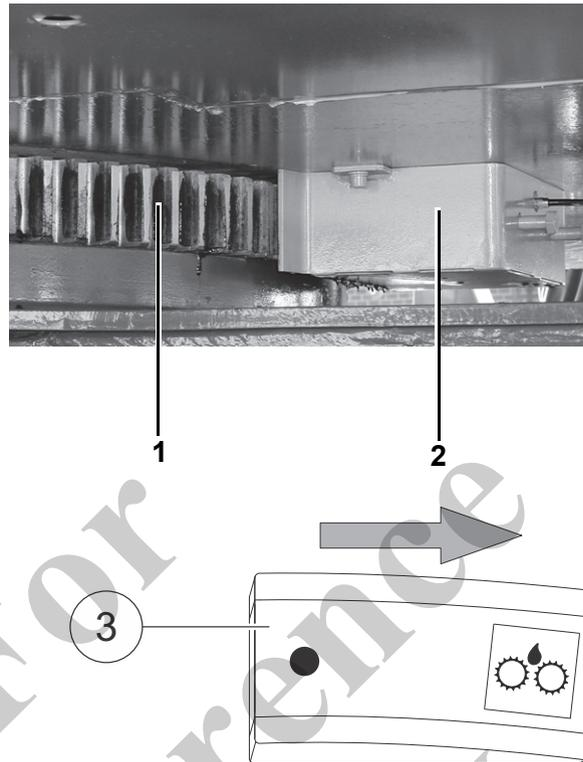

Fig. 230 Gear tooth lubrication
5	<p>Lubrication process:</p> <ul style="list-style-type: none"> - Press and hold the push-button (3) in Fig. 230 on the control panel. - Slew the uppercarriage with the left control lever 360° to the left and to the right to distribute the lubricant evenly over the gearing.